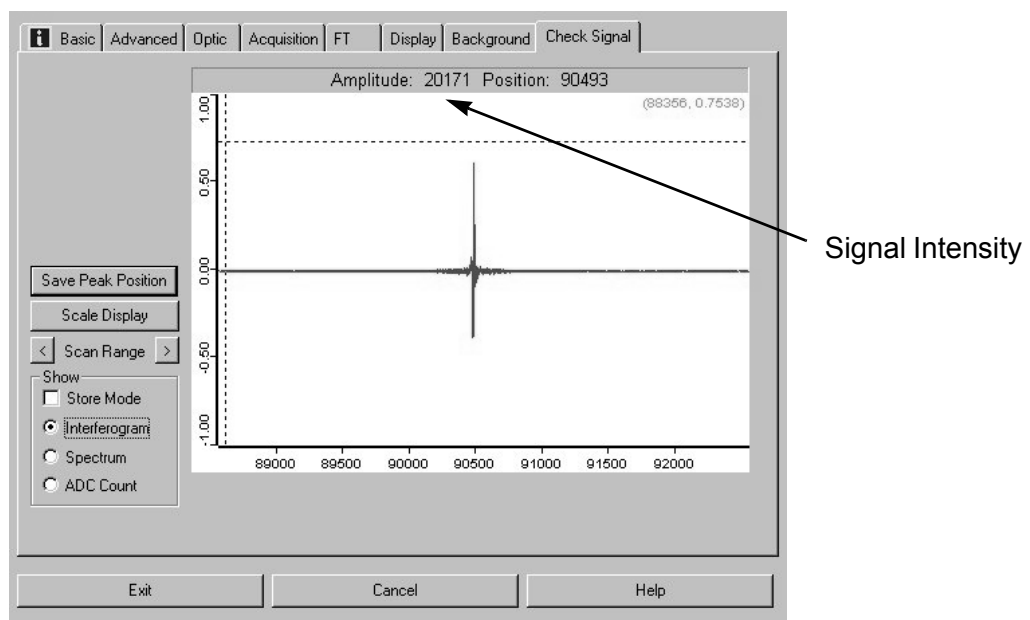

Figure 17: OPUS Window - Measurement
- Select the *Advanced Measurement* function in the *OPUS Measure* menu. A dialog window opens. Click on the *Check signal* tab to check the signal intensity (amplitude value). See figure 17. Compare this value with the corresponding value of the OQ1 test report. If the signal is too weak, check the condenser adjustment.